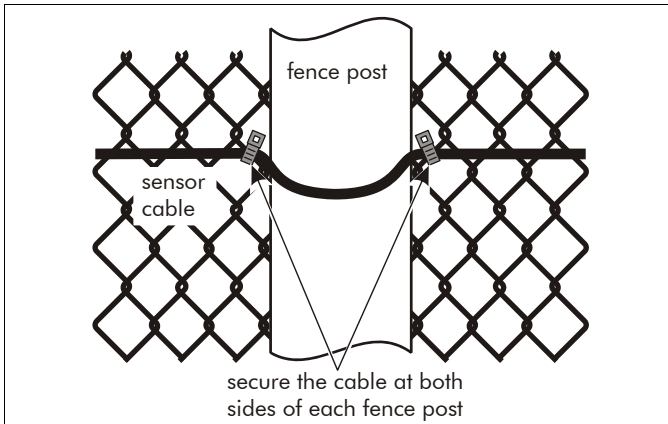

Figure 4 Securing the cable at the fence post
- Secure the cable at both sides of each fence post (See Figure 4). Ensure that the cable is not stretched tightly, but that it is snug against the fence post so that it cannot move.